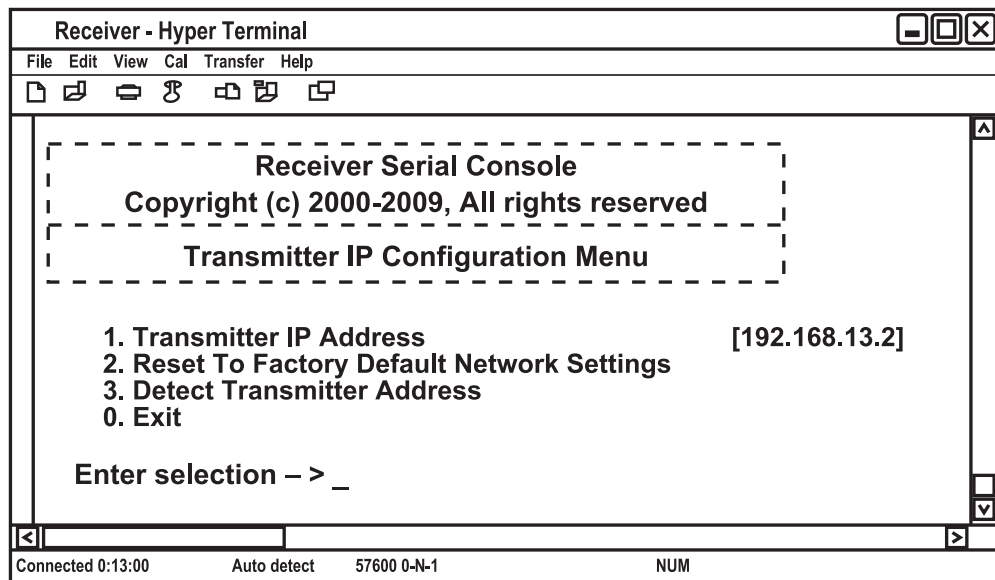

Figure 4-13. Transmitter Configuration menu on the DTX receiver.
- Press 2 to select the Transmitter IP Config option and press "Enter." The old Transmitter IP Address is displayed beside menu option 1 (see Figure 4-13).